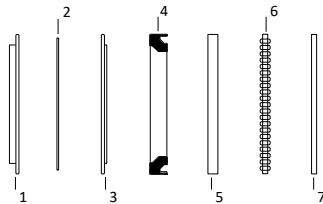

Figure 2
5. Remove the thrust washer (14), front thrust bearing (13), thrust washer (12), shaft seal (6), back-up seal (5), back-up shim (4), and back-up ring (3) from housing. Discard items (3, 4, 5, & 6).
6. Place shaft (23) on a clean flat surface with output end facing up.
- a) Place on shaft, the thrust washer (14), then thrust bearing (13), then thrust washer (12).
- b) Lightly coat seal area of shaft with clean oil and place shaft seal (6) down onto shaft (23) making sure that lip on seal faces down (See Figure 2 for correct seal orientation) until it contacts thrust washer (12).
- c) Carefully install the back-up seal (5) onto the shaft (23) with the flat side up and the seal lip facing the shaft seal (6).
- d) Place the metal back-up shim (4) onto the shaft, then place the back-up ring (3) onto the shaft with the flat side against the backup shim (4).